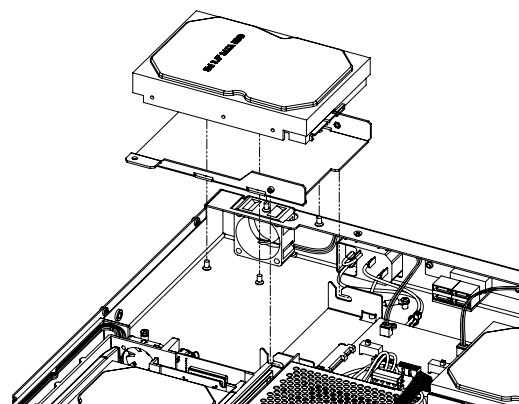

Figure 2: Hard Drive Installation
4. Install the hard drive on the drive tray and secure it with the provided screws. See figure 2.